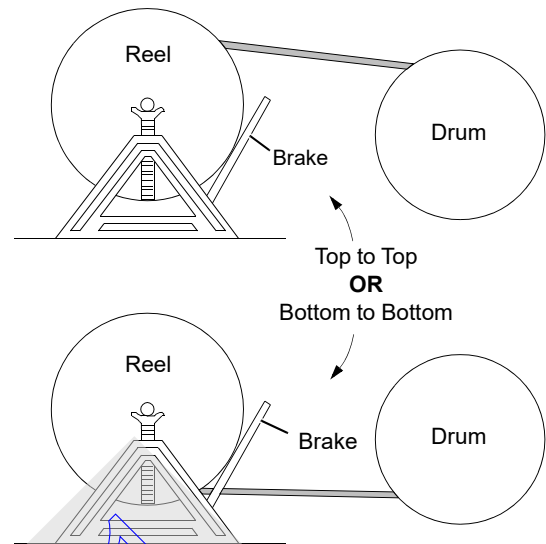

FIGURE 4-52
2. Provide a brake at shipping reel (see Figure 4-52) so wire rope can be wound tightly onto drum.
3. **Avoid a reverse bend when winding wire rope onto drum:** wind from top of reel to top of drum or from bottom of reel to bottom of drum as shown in Figure 4-52.